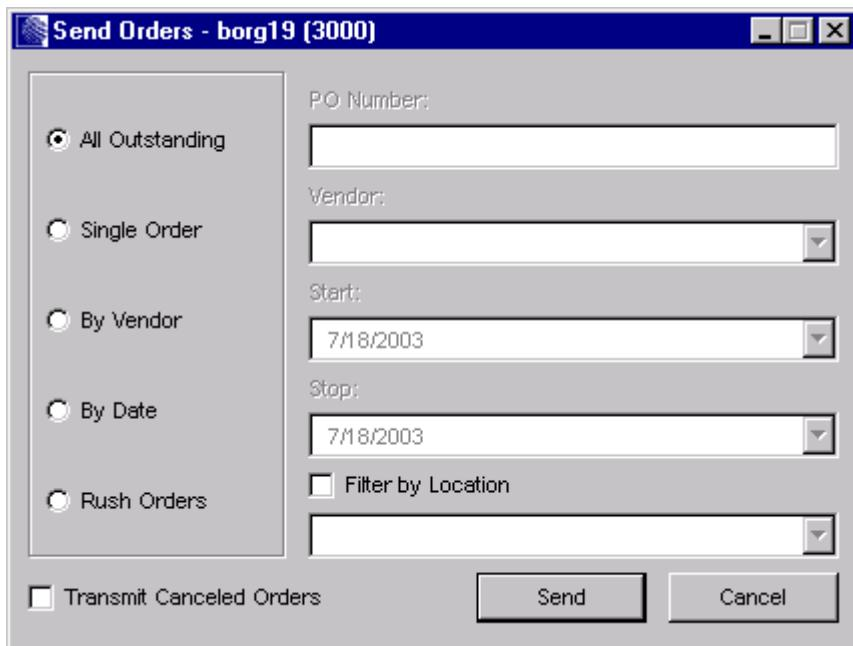

Figure 5-1. Send Orders Dialog Box
The Send Orders dialog box appears (*Figure 5-1*).
1. Display the Send Orders window (*Figure 5-1*)